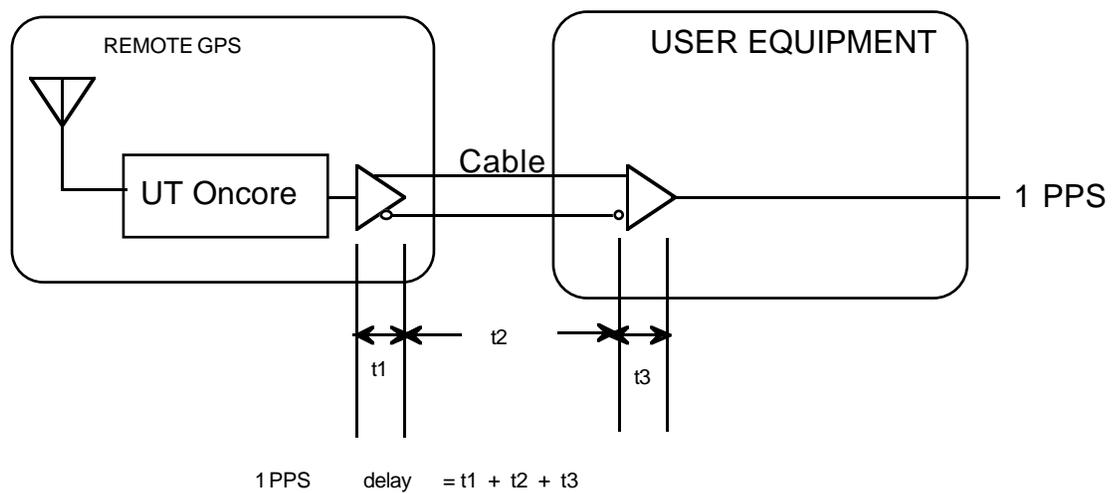

Figure 5.1 1PPS Delay
- Accuracy: <130 ns (1 sigma) with SA on. In position hold mode, < 50 ns (1 sigma) with SA, specified at output of the UT Oncore prior to the RS 422/RS485 driver. See Figure 5.1.
- 0 to 5 V level pulse at the output of the user equipment RS422 receiver, delayed by t1, t2, t3. See Figure 5.1